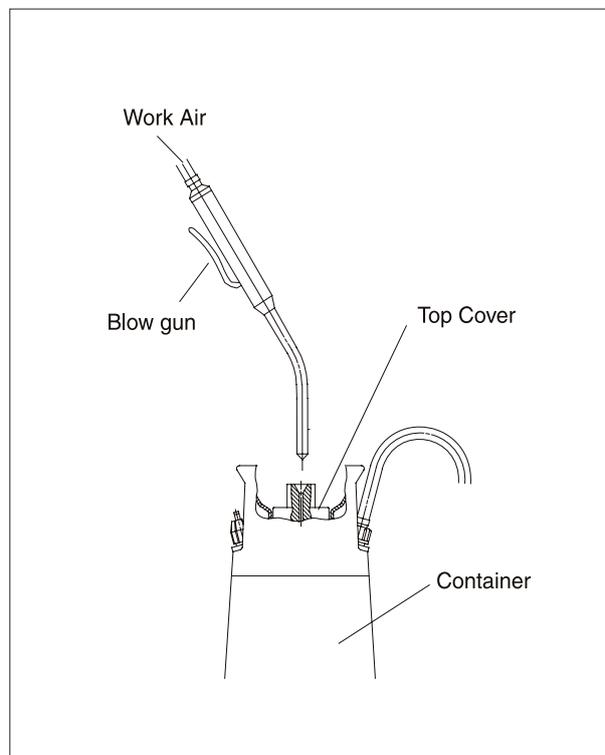

Fig 2
- 5) Blow air into the container by means of a blow gun, until an operation pressure of 3 bar is reached (see fig 2).